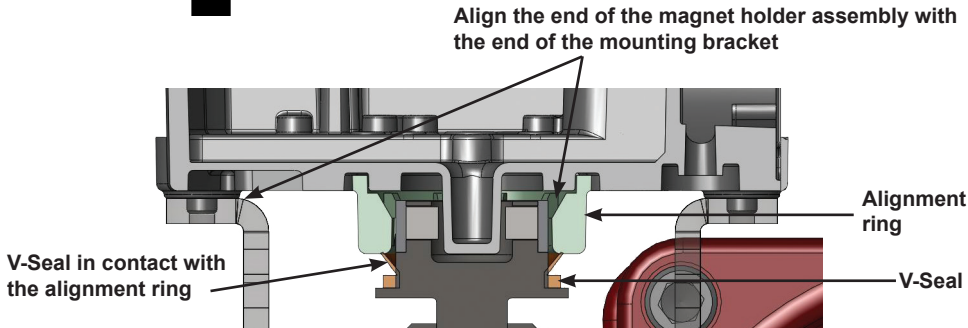

Figure 11 - Camflex V-Seal
6. Ensure that the V-Seal makes contact with the skirt around the alignment ring on the SVi1000 (Figure 11).